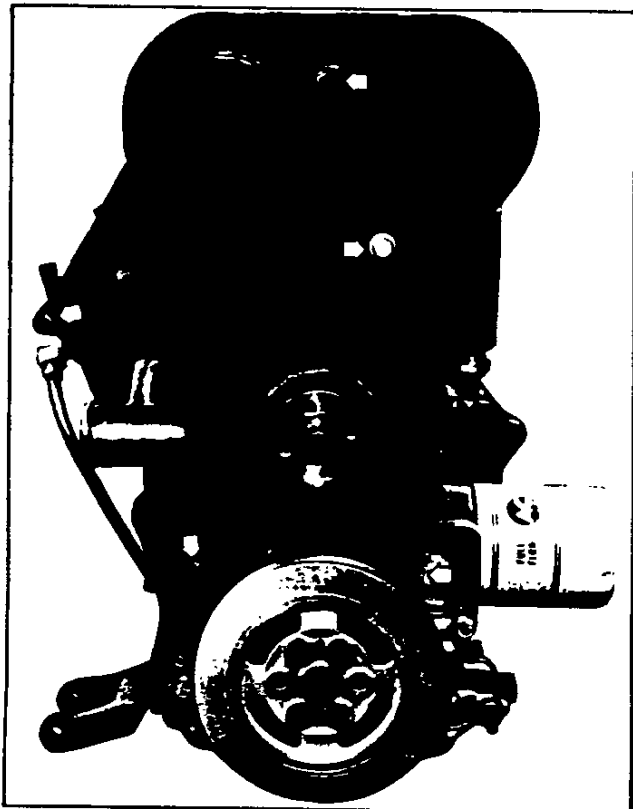

Fig. 9—Engine Front Cover Attaching Bolts
4. Remove the two, cover lower screws, remove the three, cover attaching bolts (fig. 9); then lift up on right side of cover and pull forward to clear accessory drive belt and water pump hub. Push downward on left side of cover to disengage cover from support — lift cover from engine.